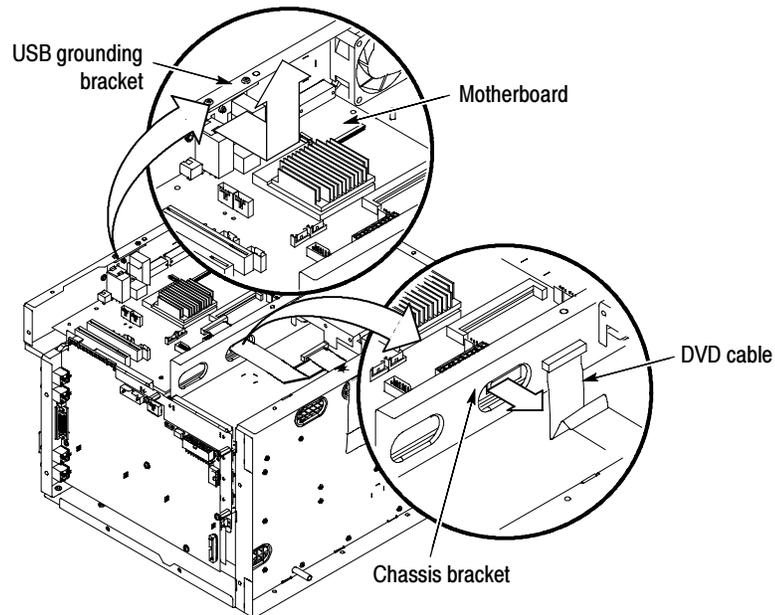

Figure 6: Removing the motherboard
5. Disconnect and pull all cables clear of the motherboard. (Refer to Figure 6 on page 11.)